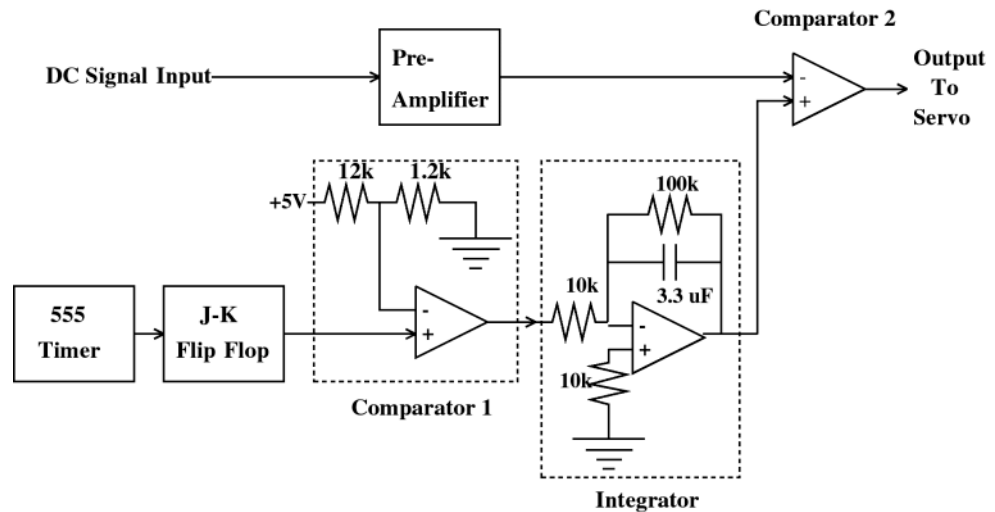
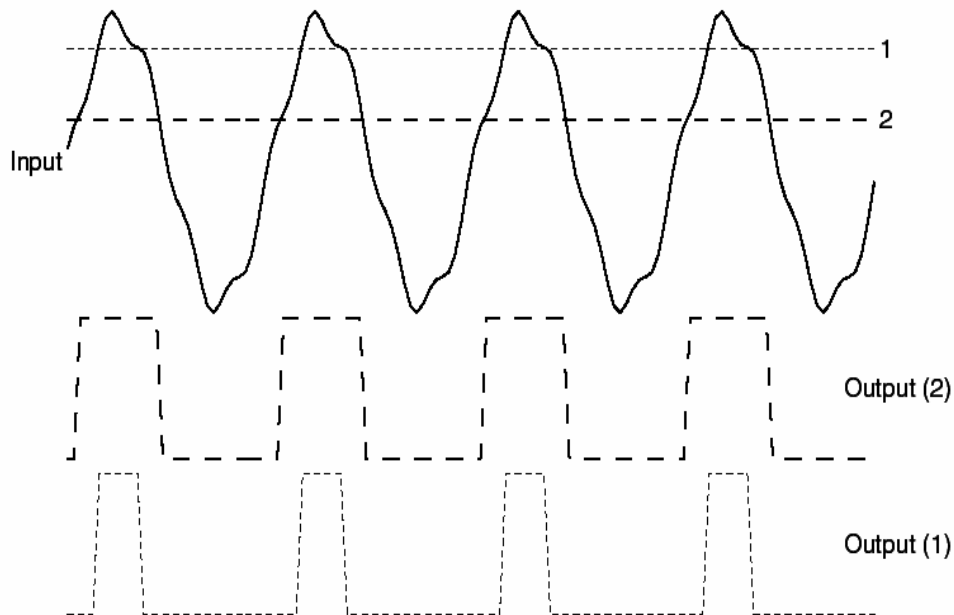
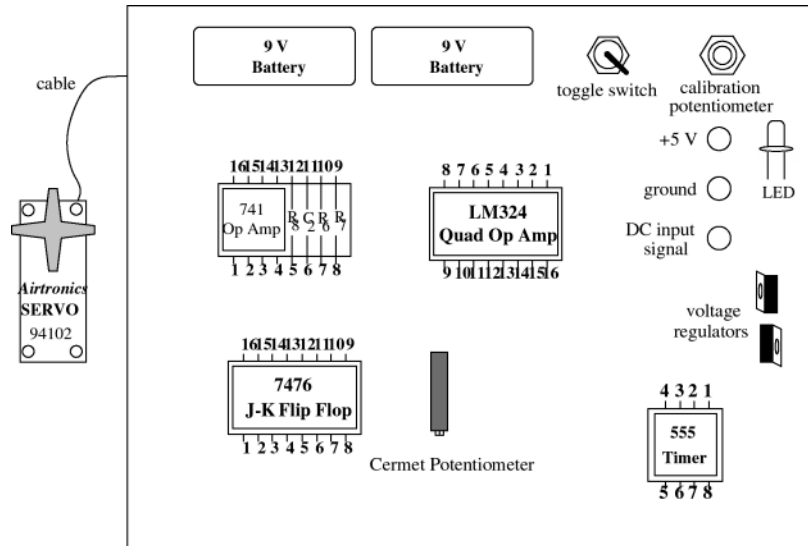
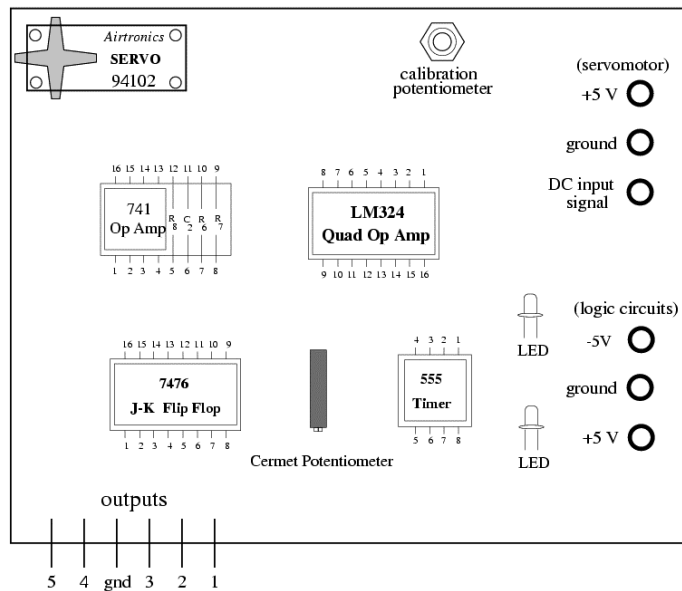

Figure 3: Servomotor Controller Circuit Block Diagram
Figure 5: Comparator output
Figure 6: Servo Circuit Layout (9V battery version)
Figure 7: Servo Circuit Layout (all external DC power supply version)
The servo controller circuit consists of several op-amps and Transistor-Transistor Logic (TTL) components. Its purpose is to convert a DC voltage into a rectangular pulse train whose **duty cycle** is determined by the DC level. The servo responds to variations in the **duty cycle** of a 50 Hz rectangular pulse train. The controller circuit is designed to produce a 50 Hz rectangular pulse train with a **duty cycle** determined by the DC voltage level at its input. The path of the signal through the circuit is shown in the block diagram of Figure 3. A summary of each component is provided in the following section.
The final stage of the servo controller circuit is a comparator (Comparator 2 in Figure 3). The integrator output is compared to the (amplified) DC signal. This comparator circuit utilizes the second 741 op-amp on the LM324 Quad Op-Amp chip shown in Figure 6,7. Whenever the integrator signal amplitude is greater than the DC input, the output of the comparator is high (+Vcc). Whenever it is less than the DC input, the output of the comparator is low (0 V). This operation is shown for an arbitrary signal in Figure 5. Consider the time-varying periodic signal as **compared** to the DC threshold level. When the threshold is set to level 1, the time-varying signal exceeds the threshold only for a relatively short duration near its peak. During this time, the output signal from the comparator is a rectangular pulse train with a **duty cycle** as shown in Figure 5. If the threshold is reduced to level 2, the time-varying signal exceeds the threshold for a longer duration and the **duty cycle** is increased.
There are two different versions of the servo controller board. You must first determine which servo controller board you have at your lab station. The main difference between the two versions is the DC power supply for the op-amps and TTL logic chips. The controller shown in Figure 6 shows the controller which utilizes two 9V batteries and Figure 7 shows the controller which utilizes an external split DC source for its on-board logic. Depending on which board you have at your lab station, follow the procedure below. Both controller boards will require the use of the Agilent E3631A Triple Output DC power supply in addition to the Agilent E3611A power supply that you have used in previous experiments.
3. From the above two expressions derive a relationship between the DC input voltage and the duty-cycle of the signal output from the comparator. Is this relationship linear? Explain why the input signal to the comparator in Figure 5 would not give a linear relationship between DC input and the output signal's duty-cycle. Explain why a square wave input (instead of a triangle wave) to the comparator would not give an output signal with variable duty-cycle.